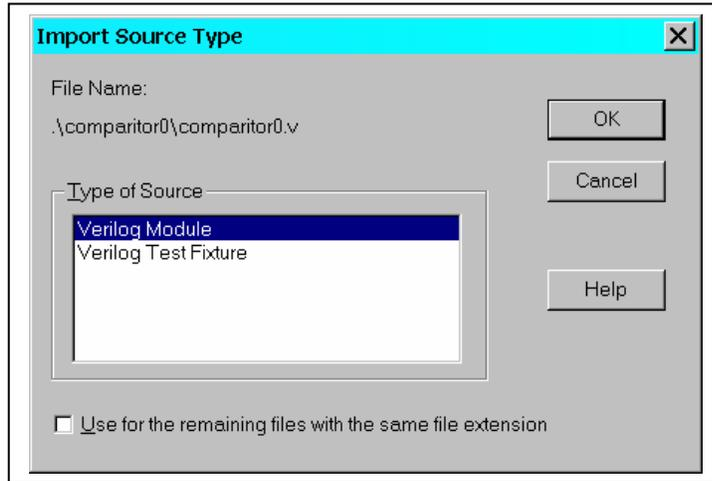

Figure 6.
9. Select *Verilog Module* when the *Import Source Type* window pops open as in Figure 6. Select **OK**